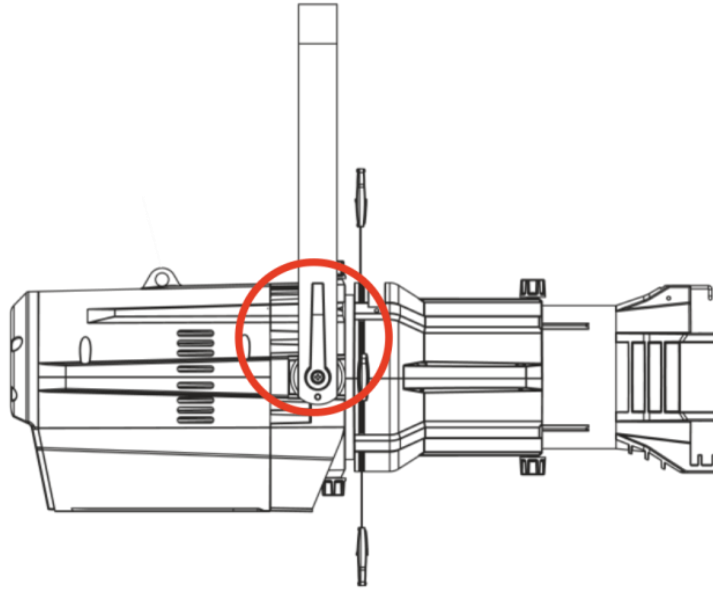

Fig. 10
- 02) Tilt the fixture to the desired position (Fig. 10).